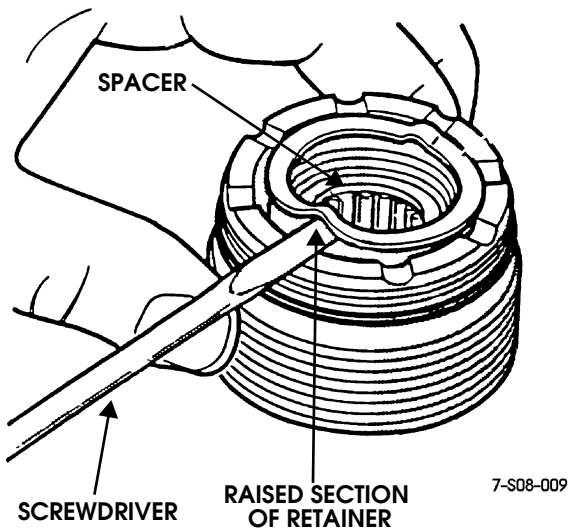

Figure 8-36: Adjuster Plug Thrust Bearing Retainer Removal
- 3. Remove thrust bearing retainer by prying it up and out at raised point on retainer (Figure 8-36).